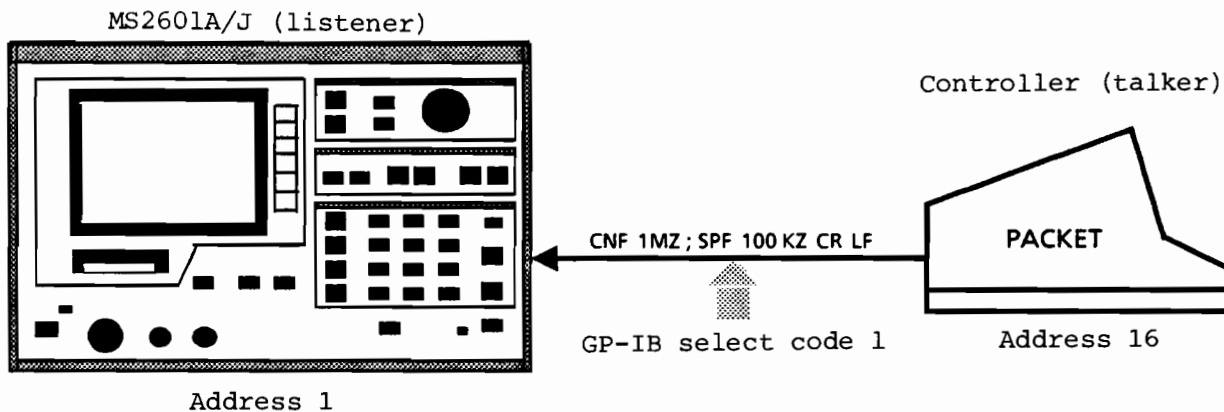

Fig. 10-1 Device Data Transfer
To set the CF of the MS2601A/J to 1 MHz and its SPAN to 100 kHz, by using the Packet Personal Technical Computer as a controller, use a WRITE@ statement, as shown in Fig. 10-1. (The following explanations assume that the interface select code is 1 and the MS2601A/J address is also 1 unless otherwise specified.)
In Fig. 10-1, the right half of the WRITE@ statement (separated by a colon [:]) is the device message zone. The device message characteristics are as follows:
3. A single-line message is terminated by a CR LF code. (The CR LF at the end of the transferred data shown in Fig. 10-1 is automatically added by the WRITE@ statement.)
For the two messages in Fig. 10-1 (CNF 1MZ and SPF 100 KZ), the header of each message is an upper-case alphabetic character string that determines what is to be set. When numeric data follows this character string, it determines how the data is to be used.